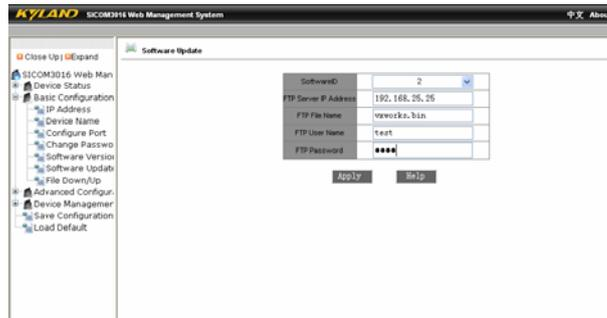

Figure 7-12 Software Update sample
1. Configure IP address, user name, password and software name of the FTP server, click “Apply” button and record upgraded software ID as shown in Figure 7-12;